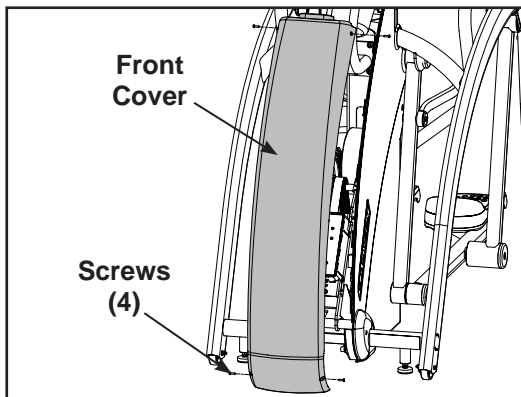

Figure 4
- A. Using a Phillips screwdriver, remove the four screws securing the front cover. See Figure 4.
- A. Place the front cover in position. See Figure 4.